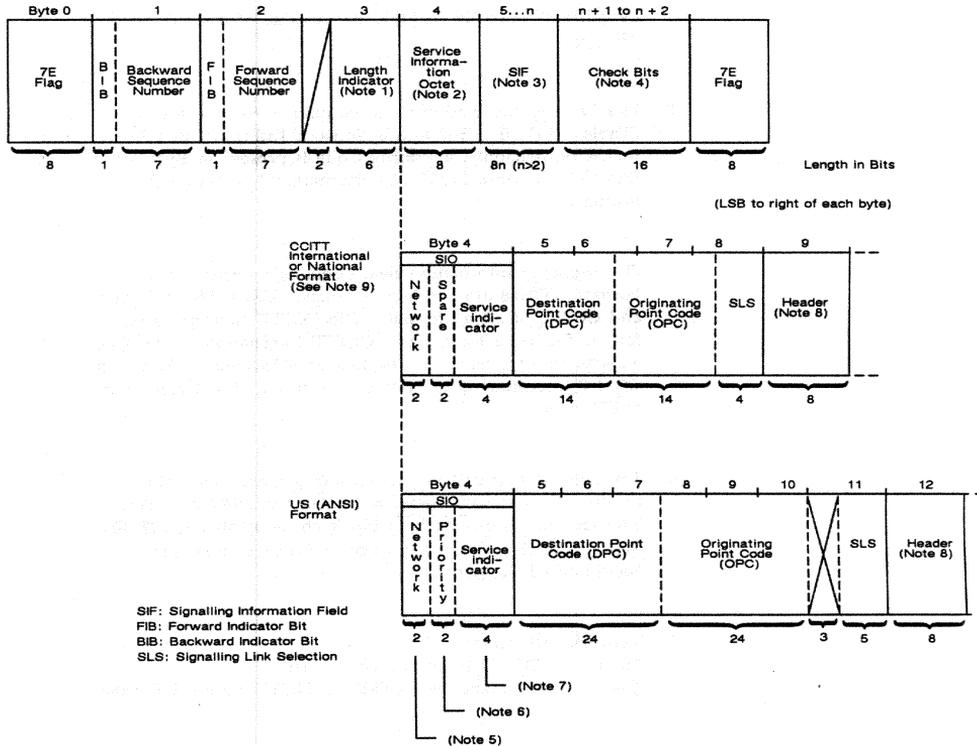
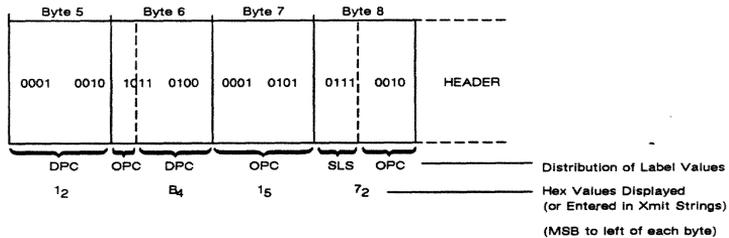

Figure 43-9 Format of a Message Signal Unit (MSU).
Figure 43-10 CCITT labels are entered and transmitted as shown.
Figure 43-9 shows the general structure of a Message Signal Unit. Figure 43-10 illustrates how CCITT International or National labels are entered and transmitted. MSU types are defined in Table 43-1. Table 43-2 through Table 43-5 define possible MSU headers for Network Management, SCCP, ISDN, and TUP MSU's.
9. Since the label in CCITT International or National Format is not byte-aligned, the values displayed in hexadecimal on the INTERVIEW screen are skewed. As a result, CCITT labels must be interpreted as shown in Figure 43-10.